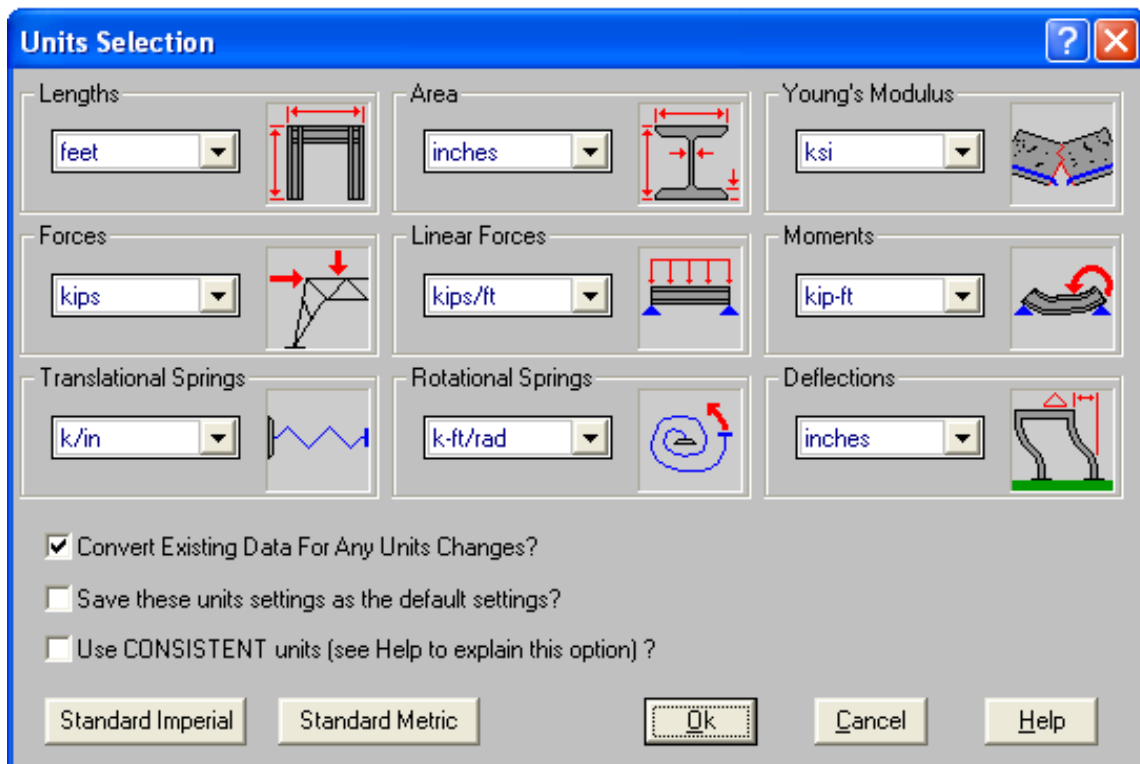

Figure 4
- (1) To establish the units, click **Units** at the top of the screen to activate the **Units Selection** toolbar (Figure 4), which provides several options:
- Or if you wish, set units in convenient dimensions (as in Figure 4), and then click **Convert Existing Data for Any Units Changes**. Click **OK** once you have completed the table.